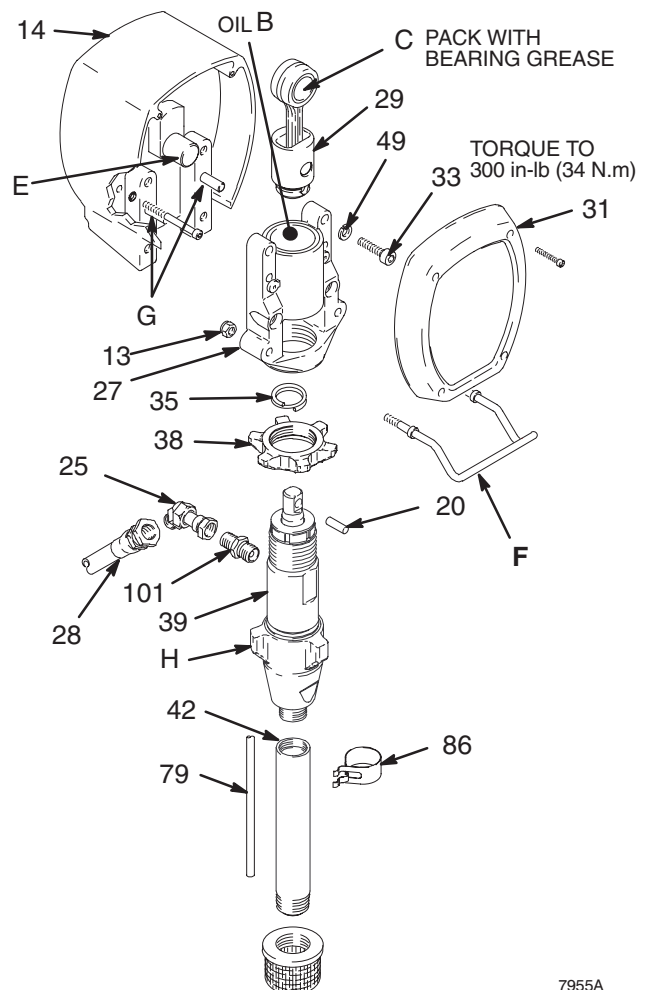

Fig. 18
NOTE: Read **General Repair Information** on page 14 before doing this procedure. See Fig. 18.
12. Install screws (33) and lockwashers (49). Tighten screws evenly to 300 in-lb (34 N.m).
14. Install remaining parts. See Fig. 18.